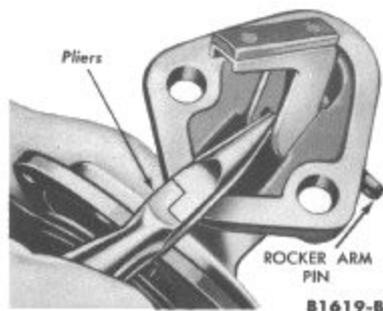

FIG. 37—Rocker Arm Pin Removal or Installation
5. Press the fuel pump diaphragm into the fuel pump body to release the tension on the rocker arm and allow the rocker arm pin to fall out. If the pin does not come out freely, use needle nose pliers (Fig. 37). Pull the rocker arm out to unhook it from the diaphragm stem.